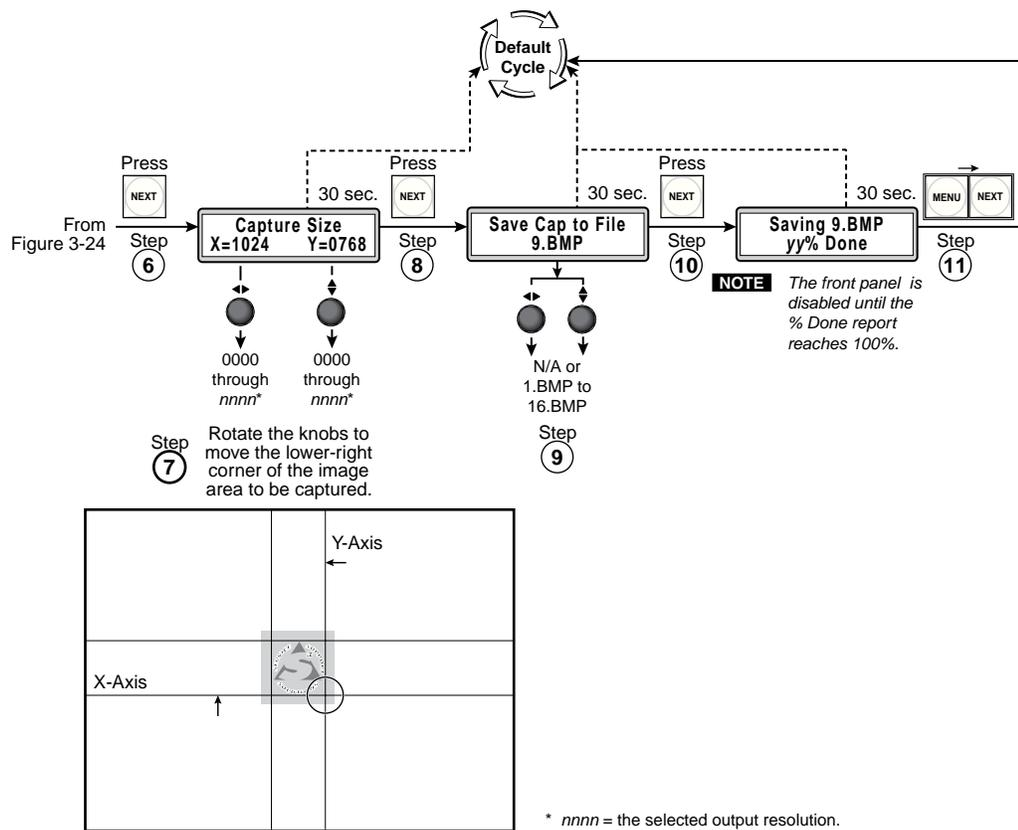

Figure 3-25 — Capturing a logo, continued
- Press the Next button (figure 3-25). The Capture Size submenu appears.